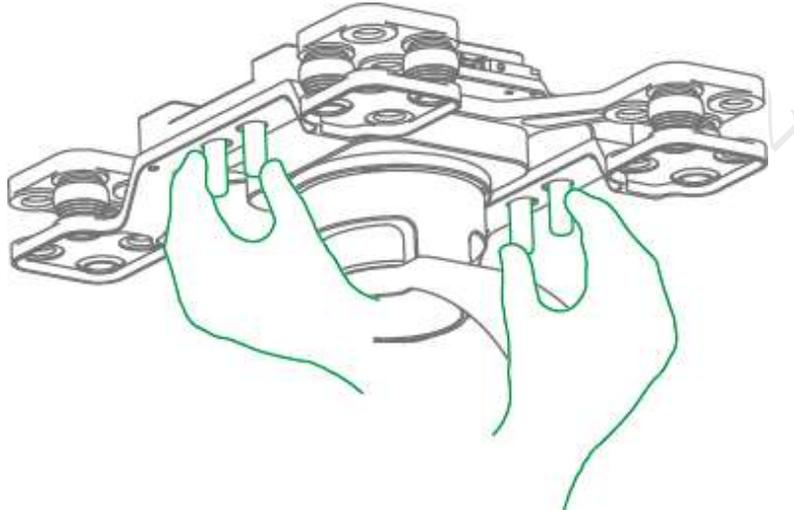

Figure 3-9
Step 1 Hold 2 handles of the PTZ camera with both hands and pull them downwards, as shown in Figure 3-9.